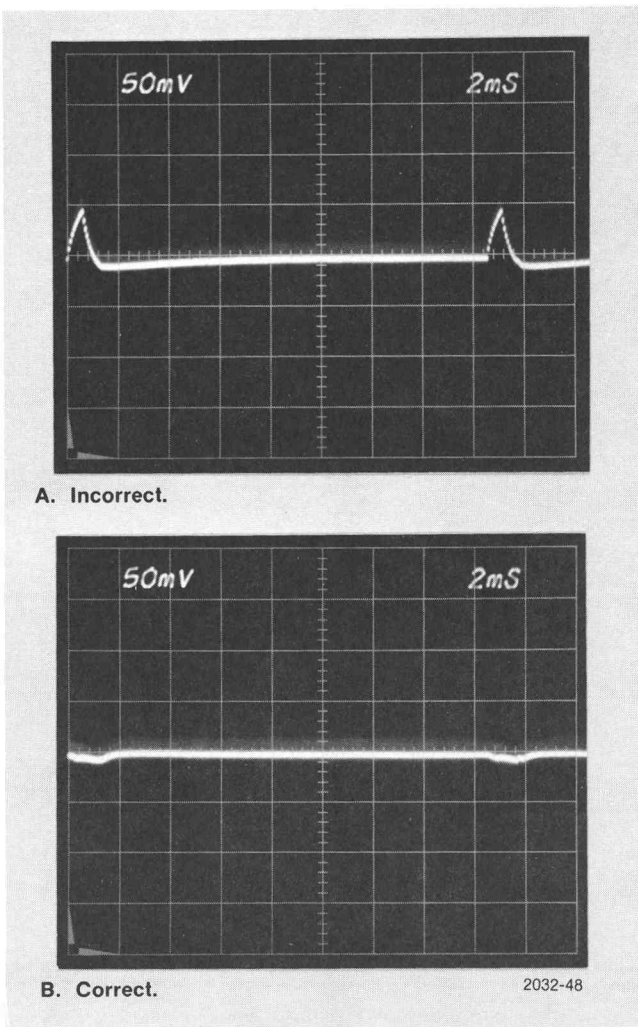

Fig. 4-18. 1420—DC Balance adjustment.
b. Check—The Test Oscilloscope display for an essentially straight line (see Fig. 4-18).
c. Adjust—R1561 (DC Bal) until the Test Oscilloscope display is a straight line (see Fig. 4-18).